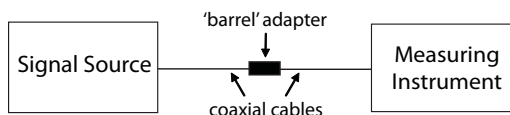

Figure 3 – Setup for Reference Measurements (R)
- 1) **REFERENCE MEASUREMENTS (R)** - With the equipment set up as shown in Figure 3, measure and record the signal level (*in dBμV*) at several frequencies over the frequency range to be calibrated.